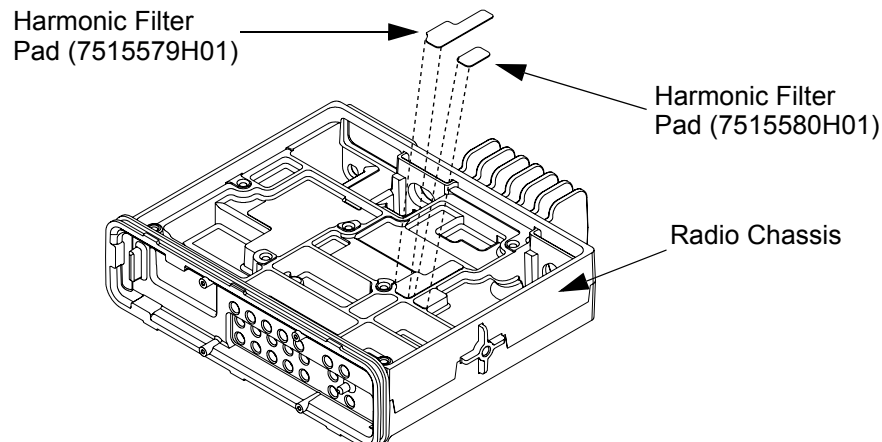

Figure 5-58 Replacing Thermal Pads
3. Once the surface is clean and dry, remove the new pad from the shipping liner, and place it white side down on the chassis as shown in Figure 5-58.